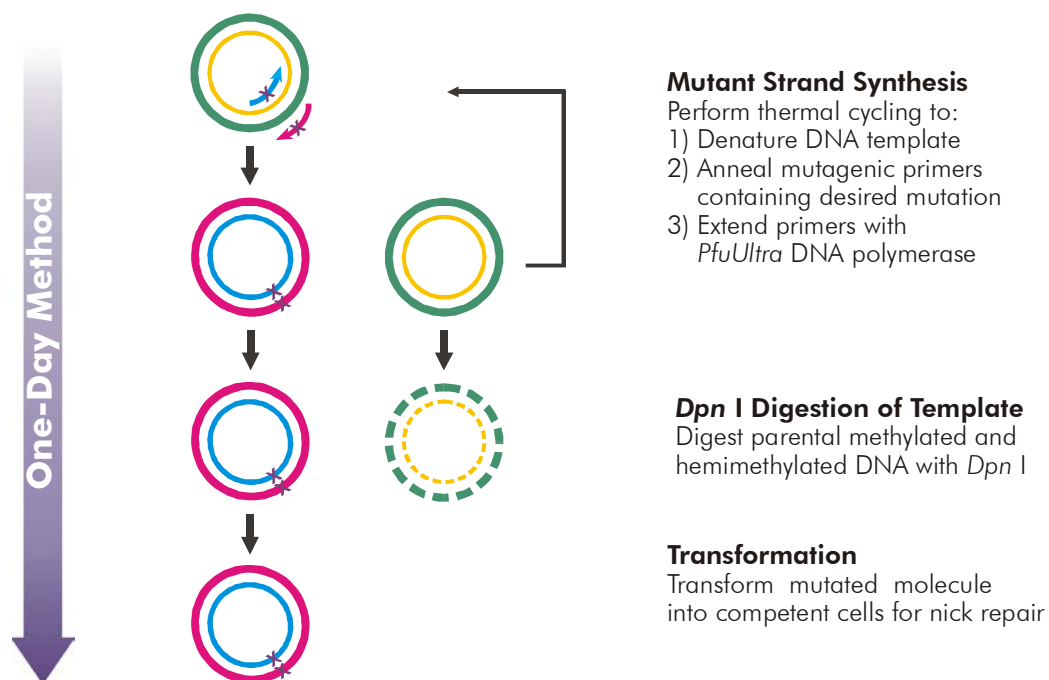

FIGURE 1 Overview of the QuikChange II site-directed mutagenesis method.
In vitro site-directed mutagenesis is an invaluable technique for characterizing the dynamic, complex relationships between protein structure and function, for studying gene expression elements, and for carrying out vector modification. Several approaches to this technique have been published, but these methods generally require single-stranded DNA (ssDNA) as the template¹⁻⁴ and are labor intensive or technically difficult. Our QuikChange II Site-Directed Mutagenesis Kit* allows site-specific mutation in virtually any double-stranded plasmid, thus eliminating the need for subcloning and for ssDNA rescue.⁵ In addition, the QuikChange II site-directed mutagenesis kit does not require specialized vectors, unique restriction sites, multiple transformations or in vitro methylation treatment steps. The rapid three-step procedure generates mutants with greater than 80% efficiency in a single reaction (see Figure 1). The protocol is simple and uses either miniprep plasmid DNA or cesium-chloride-purified DNA. For long (~8 kb) or difficult targets, we offer the QuikChange II XL Site Directed Mutagenesis Kits (Catalog #200521 and #200522).
The QuikChange II site-directed mutagenesis kit is used to make point mutations, replace amino acids, and delete or insert single or multiple adjacent amino acids. The QuikChange II site-directed mutagenesis method is performed using *PfuUltra* high-fidelity (HF) DNA polymerase** for mutagenic primer-directed replication of both plasmid strands with the highest fidelity.[¶] The basic procedure utilizes a supercoiled double-stranded DNA (dsDNA) vector with an insert of interest and two synthetic oligonucleotide primers, both containing the desired mutation (see Figure 1). The oligonucleotide primers, each complementary to opposite strands of the vector, are extended during temperature cycling by *PfuUltra* HF DNA polymerase, without primer displacement. Extension of the oligonucleotide primers generates a mutated plasmid containing staggered nicks. Following temperature cycling, the product is treated with *Dpn* I. The *Dpn* I endonuclease (target sequence: 5'-Gm⁶ATC-3') is specific for methylated and hemimethylated DNA and is used to digest the parental DNA template and to select for mutation-containing synthesized DNA.[¶] (DNA isolated from almost all *E. coli* strains is *dam* methylated and therefore susceptible to *Dpn* I digestion.) The nicked vector DNA containing the desired mutations is then transformed into XL1-Blue supercompetent cells.